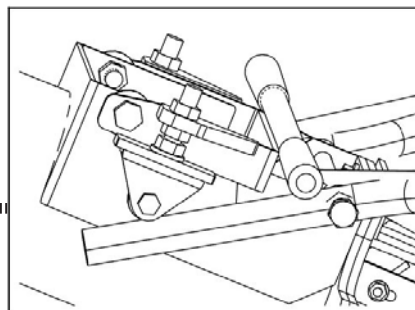

Figure 1.6
5. Check to make sure the hopper is in the up position (Figure 1.6)
15. Make sure the collapsible hopper is in the up position for storage (Figure 1.6).
11. Lock collapsible hopper in the up position (Figure 1.6).
23. Make sure the collapsible hopper is in the up position for storage (Figure 1.6).
9. Place the collapsible hopper in the up position (Figure 1.6)
18. Make sure the collapsible hopper is in the up position for storage (Figure 1.6).